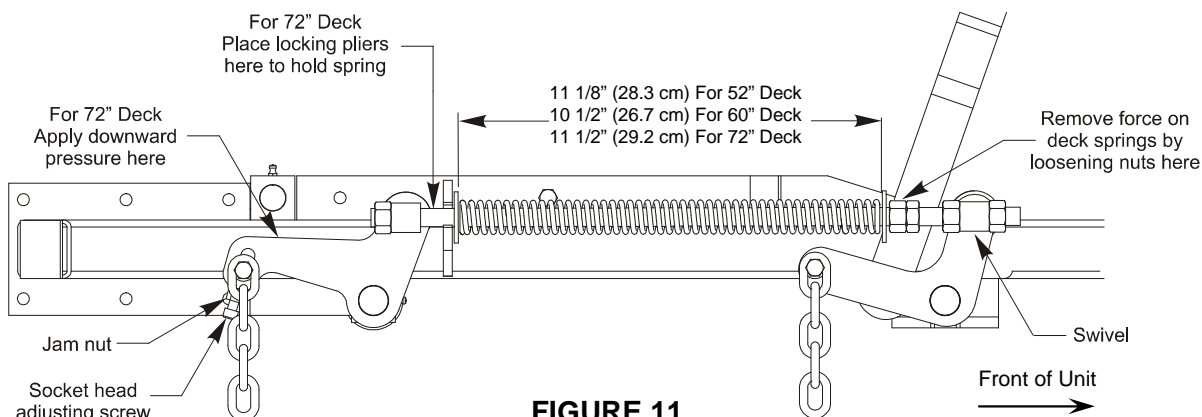

FIGURE 11
- e) Raise the deck to the 5" (12.7 cm) height position (also transport position) and take all force off of the two large deck lift springs by loosening the nuts at the front of each spring. See Figure 11.
For 72" units – Lower the deck to the 1-1/2" (3.81 cm) height position. Force the left rear deck support arm downward about 1/4" (6.4 mm) to get the deck to rest at the 1-1/2" height position. Place locking pliers between the rear swivel and spring stop to hold the deck in this position. See Figure 11.
- i) Raise deck lift lever to the 5" (12.7 cm) cutting height position See Figure 9. Adjust spring compression until proper distance is obtained between the two large washers (See Figure 11). Adjustment is made by turning the nut at the front of each spring (clockwise will shorten the spring, counter-clockwise will lengthen the spring). Lock in position with jam nuts.